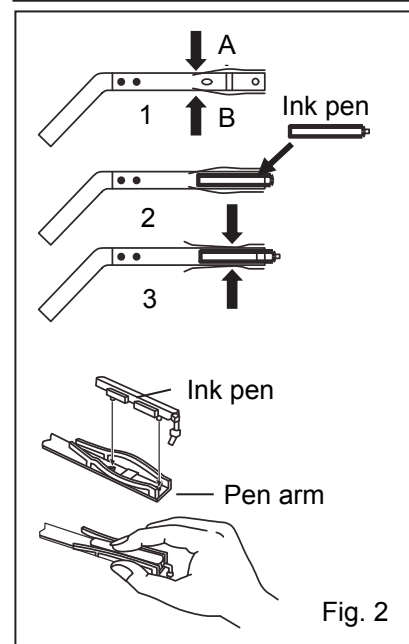

Fig. 2
4. Press both sides of the pen arm as indicated by the arrows to open the head clamp at A and B. (See to Fig. 2 illustration 1)
5. Position the ink pen so that the guide pins fit into the guide holes on the pen arm. (See to Fig. 2 illustration 2)
6. Press the two sides of the head clamp as indicated by the arrows to secure the ink pen. (See to Fig. 2 illustration 3) From the side view, the cartridge should fit perfectly on the arm. Confirm that the pen arm is attached to both sides of the ink pen.